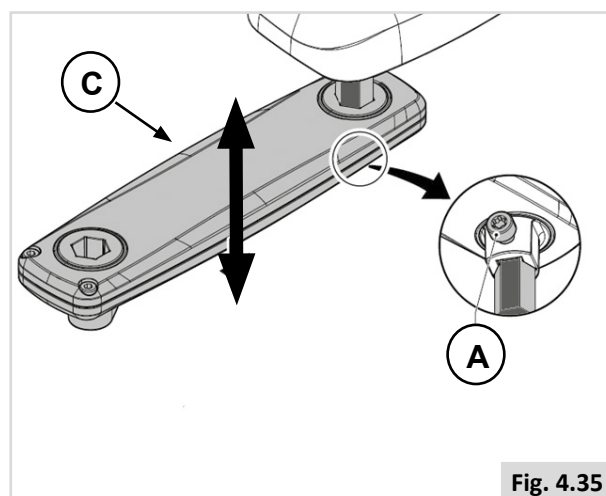
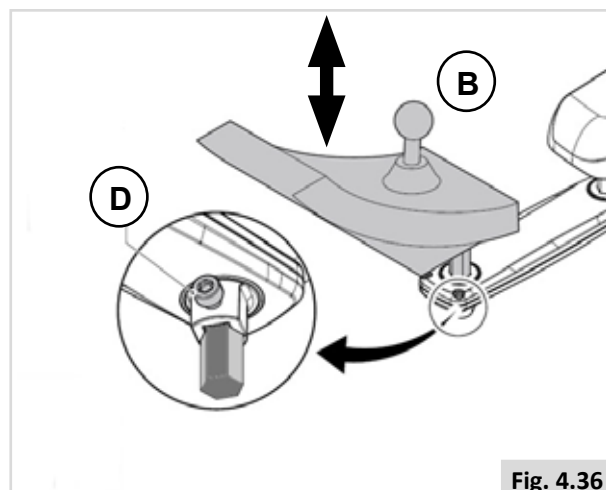

Fig. 4.35
Fig. 4.36
### Pre-setting height of the controller (1), (Fig. 4.35).
1. Loosen (A).
2. Slide (C) into desired position.
3. Tighten (A).
### Pre-setting height of the controller (2), (Fig. 4.36)
1. Loosen (D).
2. Slide (B) into desired position.
3. Tighten (D).